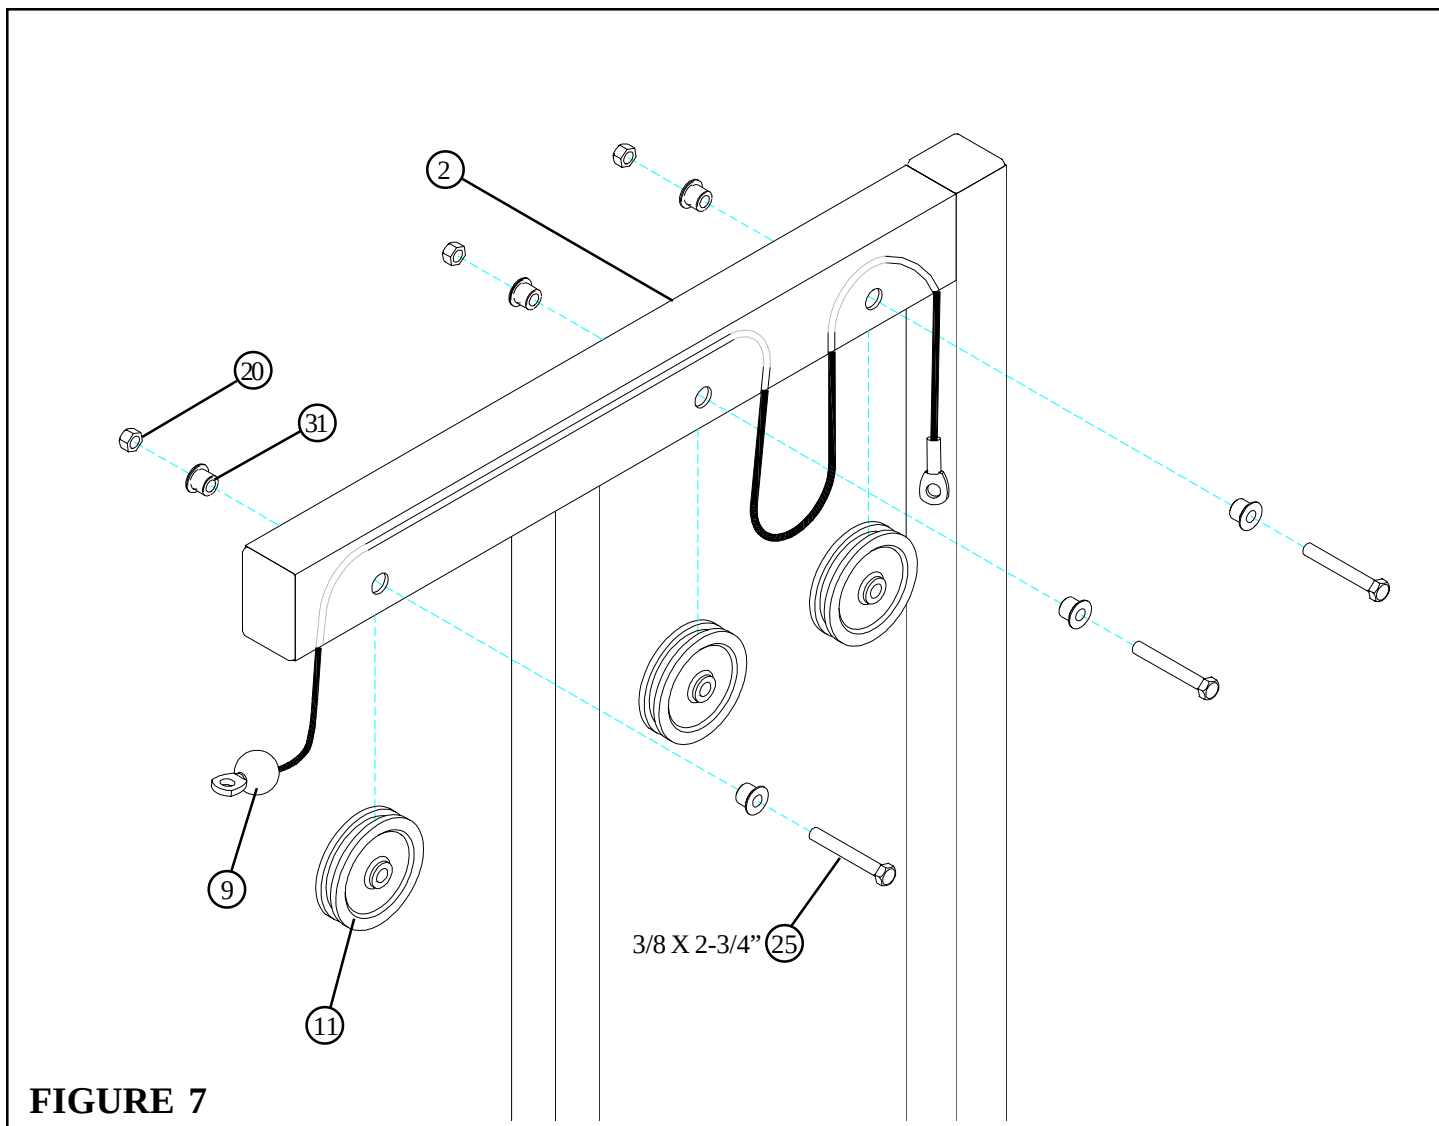

FIGURE 7
- Route the CABLE (9) through the UPRIGHT (2) as shown in FIGURE 7.
- **SECURELY** assemble three 3-1/2" PULLEYS (11) into the slots of the UPRIGHT (2) using three 3/8 X 2-3/4" BOLTS (25), six 3/8" FLANGE SPACERS (31), and three 3/8" LOCK NUTS (20) as shown in FIGURE 7. (**NOTE: Make sure the cable is routed over all the pulleys.**)